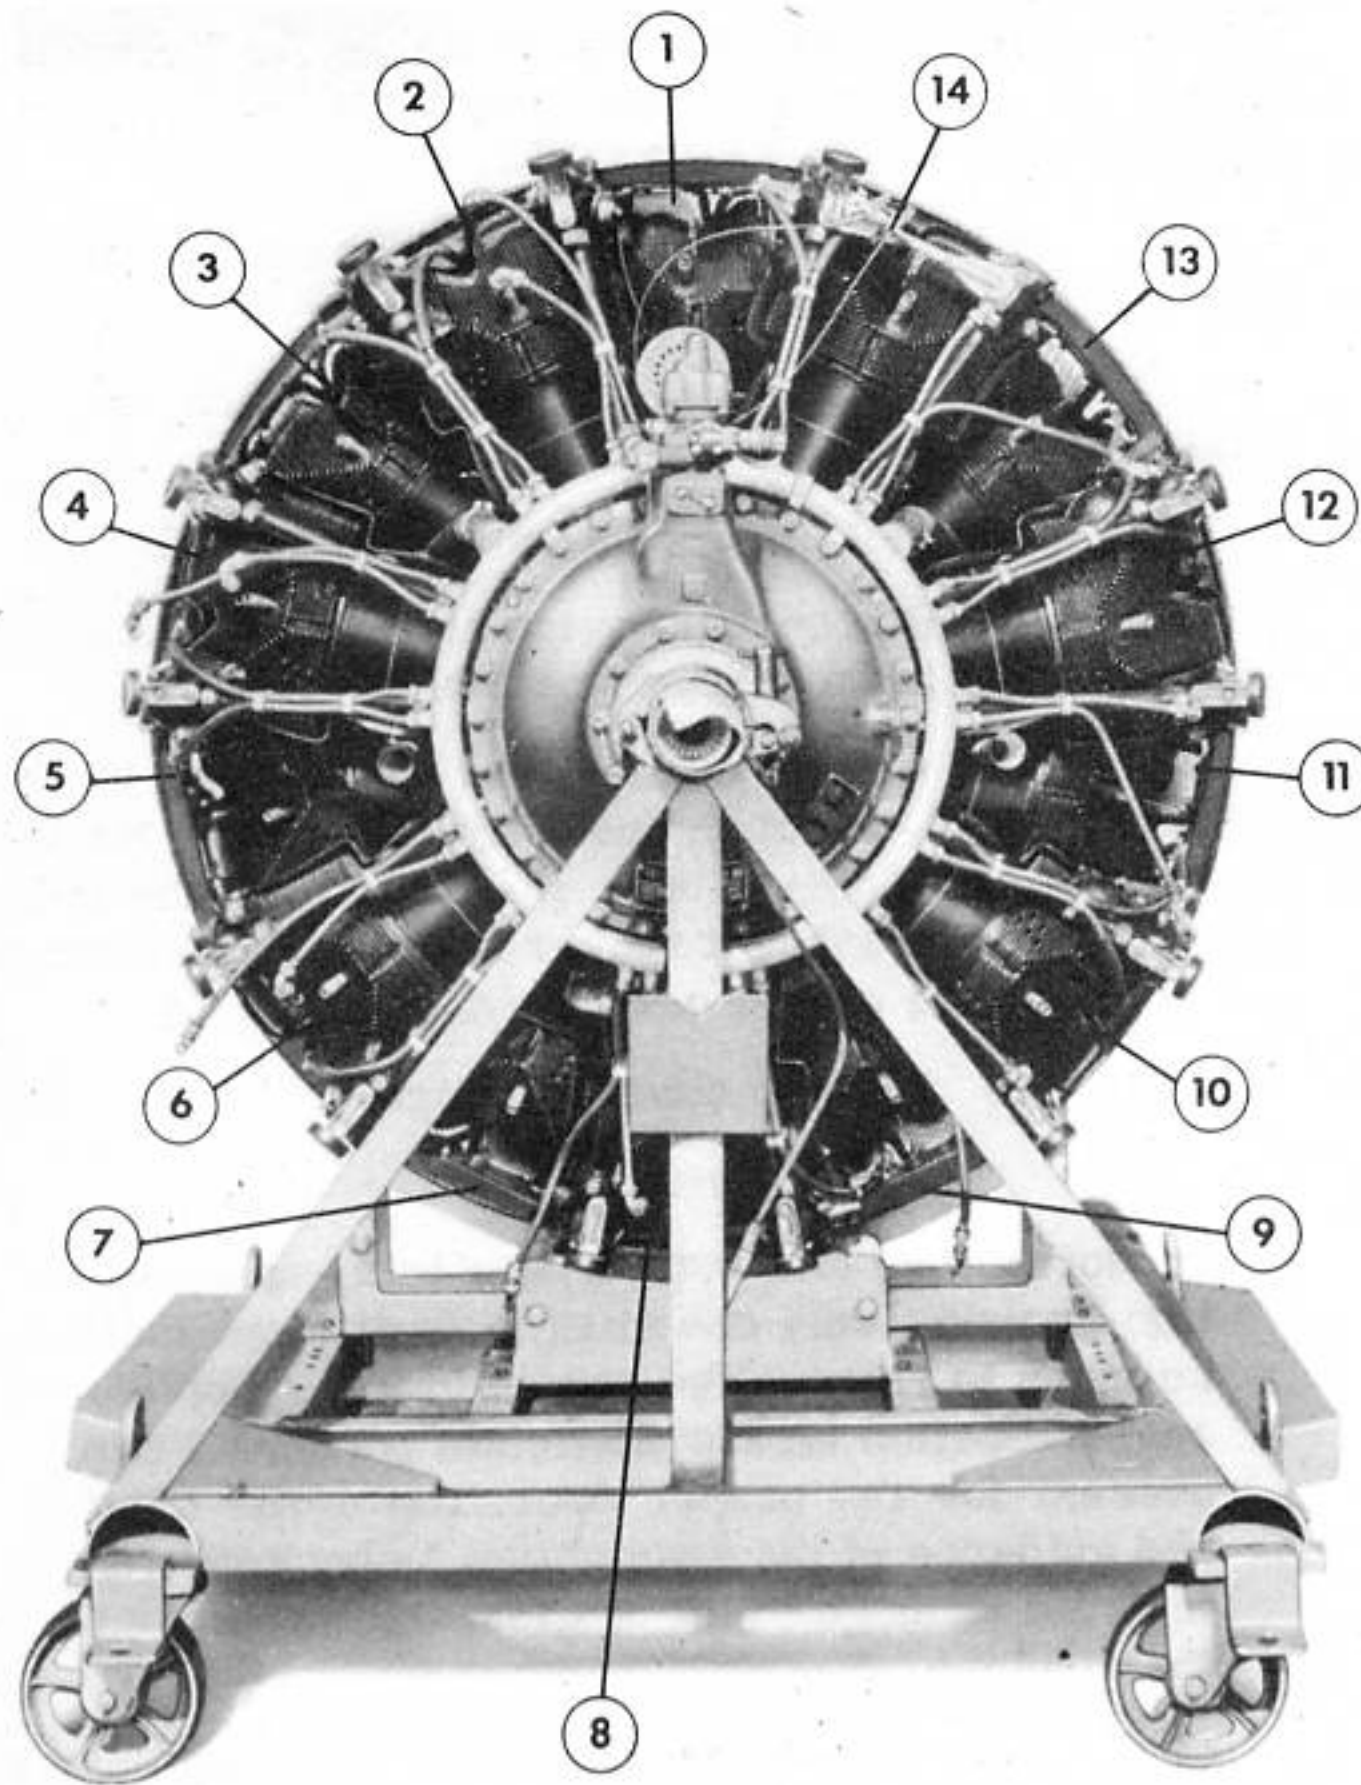

Figure 99 - CYLINDER NUMBERING SCHEME
g. Remove the sump to remove cylinders No. 7, 8, and 9. (See figure 99.)
1. With the propeller shaft turning hub, rotate the crankshaft until the rocker arms of No 1 cylinder are stationary. Move the crankshaft back and forth slightly until the intake rocker arm of cylinder No. 13 at the left of No. 1 cylinder is in the approximate midpoint of its opening stroke and the exhaust rocker arm of cylinder No. 3 at the right of No. 1 cylinder is at the approximate midpoint of its closing stroke. (See figure 99.)
7. Turn the propeller shaft in the direction of normal rotation until the valve mechanism of No. 5 cylinder is in proper position for adjustment of valve clearance. Make sure the relative position of the rocker arms of the adjacent cylinders are similar to that described for setting the valve clearance of No. 1 cylinder. Repeat steps b through f to adjust the valves of this cylinder. (See figure 99.)
8. Repeat the procedure for cylinders 9, 13, 3, 7, and 11 respectively. (See figure 99.)
adjustment of its valve clearance. Move the crankshaft back and forth until a position is obtained where the intake rocker arm of cylinder No. 10 (at the left of cylinder No. 12) is in the approximate midpoint of its opening stroke and the exhaust rocker arm of cylinder No. 14 (at the right of cylinder No. 12) is at the approximate midpoint of its closing stroke. (See figure 99.)
4. In a like manner, adjust the valve clearance of cylinders No. 6, 10, 14, 4, and 8 respectively. (See figure 99.)